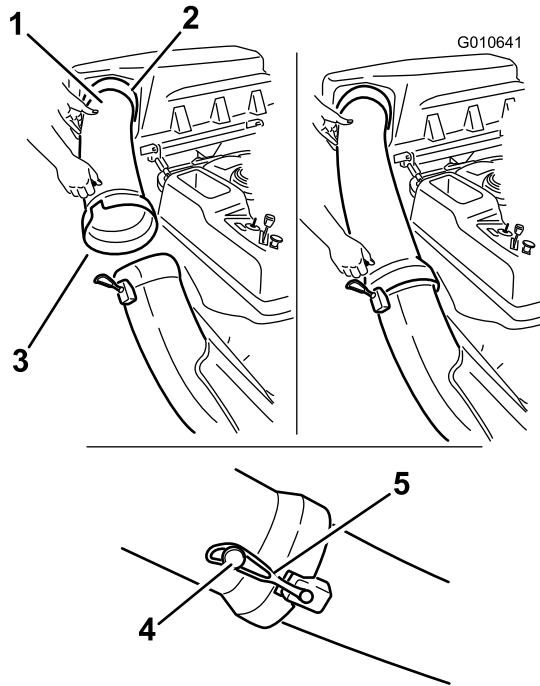

Figure 28
1. Slide the curved end of the discharge tube into the opening in the bagger top (Figure 28).
2. Slide the flared end of the discharge tube over the end of the chute. Move the rubber retaining strap on the chute snaps over the peg on the discharge tube to secure it (Figure 28).